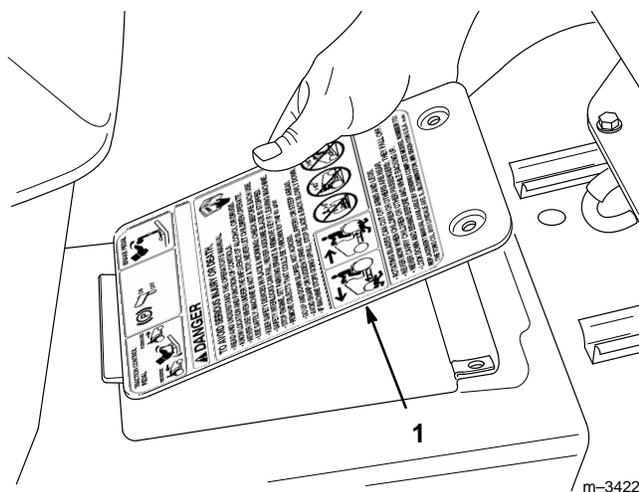

Figure 30
- Open the drive shaft maintenance cover on the tractor tunnel near the seat by unscrewing the two screws securing it, then raising it (Fig. 30).